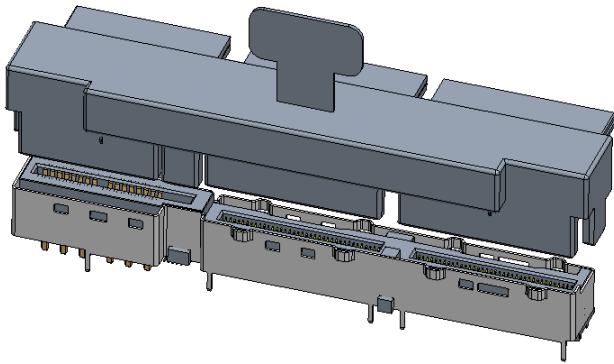
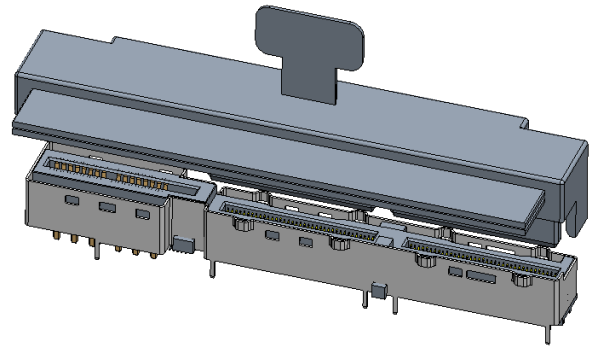
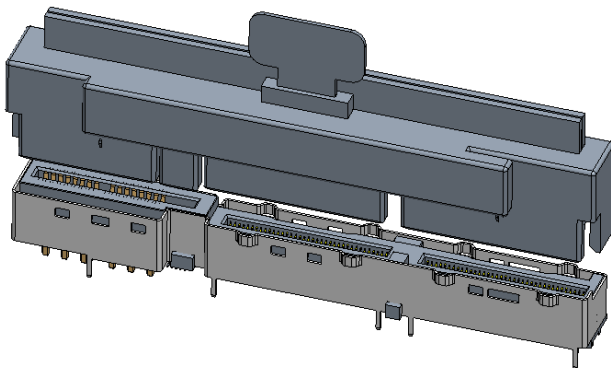

Figure 4-24 Combo x16+55A High Power Plus RA Cable Application
Figure 4-25 Combo x16+55A High Power Plus RRA Cable Application
Figure 4-26 Combo x16+55A High Power Plus STR Cable Application
2. A single combo high power cable can plug into the Vertical Combo DE x16+55A High Power Plus connector as shown in Figure 4-24, Figure 4-25, Figure 4-26, or Figure 4-27.